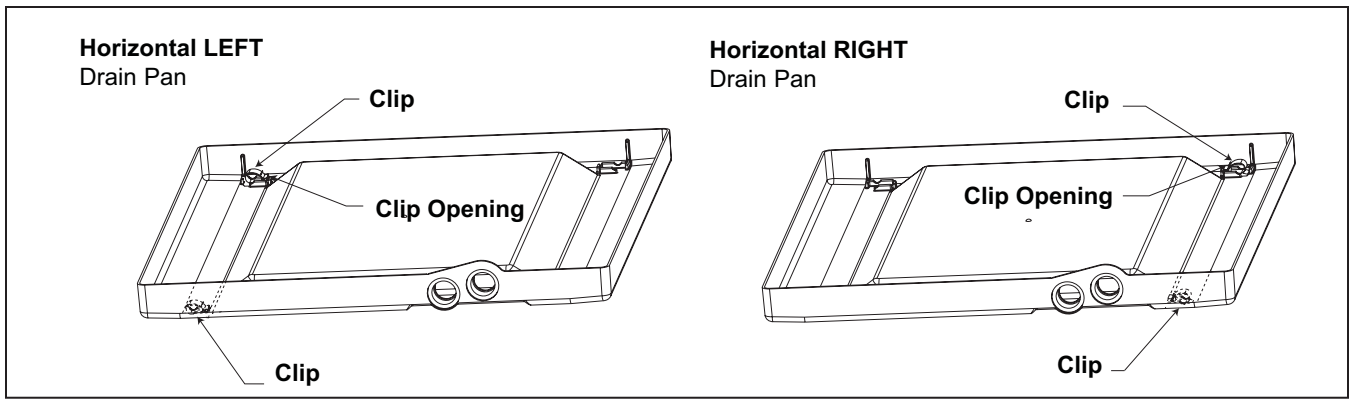

Figure 3.
- 4) The coil will have two sets of 1/4" knockouts to be used for either horizontal left or horizontal right applications. Remove the knockouts that are on the side of the coil delta plate in which the horizontal drain pan will be on. (See Figures 3,4.)
- 6) To prepare the horizontal drain pan, attach the stick-on clips. First, use the alcohol wipe supplied with the kit to clean the 1" x 5/8" recessed areas in the bottom of the pan. Then peel off the sticky back cover on the clips and place them in the cleaned recessed area of the pan. The clips should open towards the inner raised area in the bottom of the pan as shown. (See Figure 3)